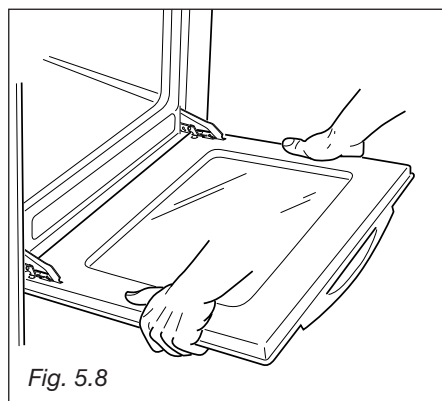
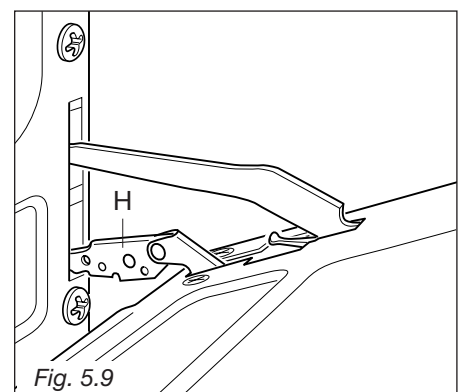

Fig. 5.8
Fig. 5.9
- Grip the door (as indicated in fig. 5.8) and, while closing it, release the two hinges as shown in fig. 5.9.
- Grip the door with your hands placed near the hinges and raise the levers "H" with your forefingers (fig. 5.9)